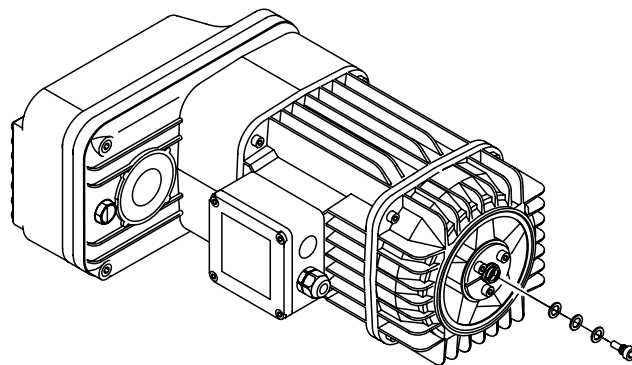

fig. 156
- **To increase the braking torque:** remove one or more washers until obtaining the desired increase in braking torque (fig. 156). With all the washers inserted below the Allen screw, the spring thrust is at a minimum, and consequently so is the braking torque.